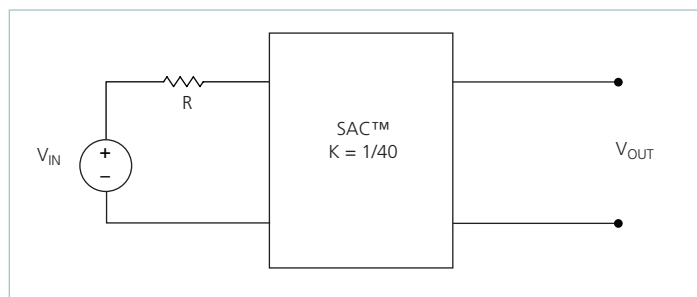

Figure 18 – $K = 1/40$ Sine Amplitude Converter with series input resistor
The use of DC voltage transformation provides additional interesting attributes. Assuming that $R_{out} = 0\Omega$ and $I_Q = 0A$, Eq. (3) now becomes Eq. (1) and is essentially load independent, resistor R is now placed in series with V_{IN} as shown in Figure 18.
Assuming that $R = 1\Omega$, the effective R as seen from the secondary side is $0.63m\Omega$, with $K = 1/40$ as shown in Figure 18.